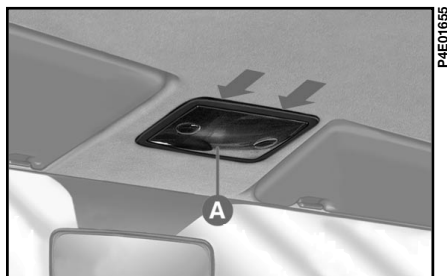

fig. 28
- remove the whole ceiling light group, pressure-fitted, by levering with a screwdriver in the direction of the arrows **A**-fig. 28 ;